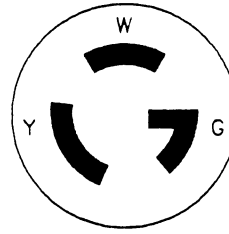

Figure 2-4. NEMA L6-30P
- b. **240 VAC** - Use cabinet power supply cord with twist lock grounding type attachment plug (NEMA type L6-30P) as shown in Figure 2-4.